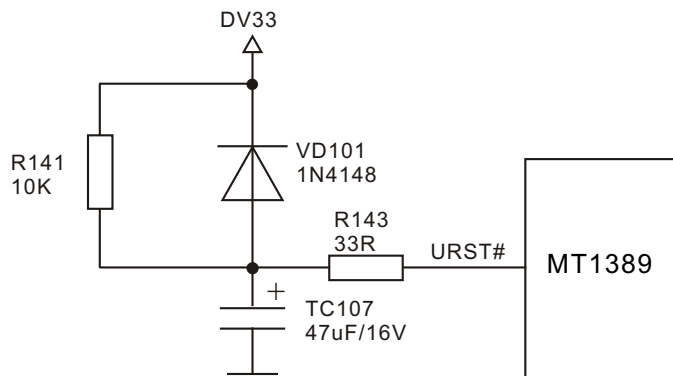

Figure 3.2.14.1 Reset circuit diagram
1. Reset circuit is shown in the figure 3.2.14.1: